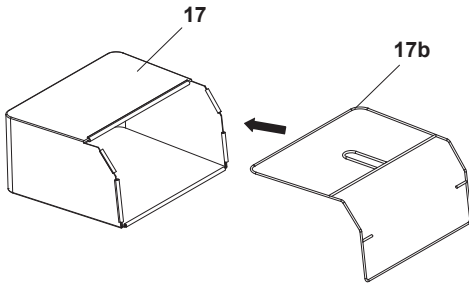

Fig. 4
- Align and insert the steel frame (17b) into the Grass catcher (17) (Fig. 4).